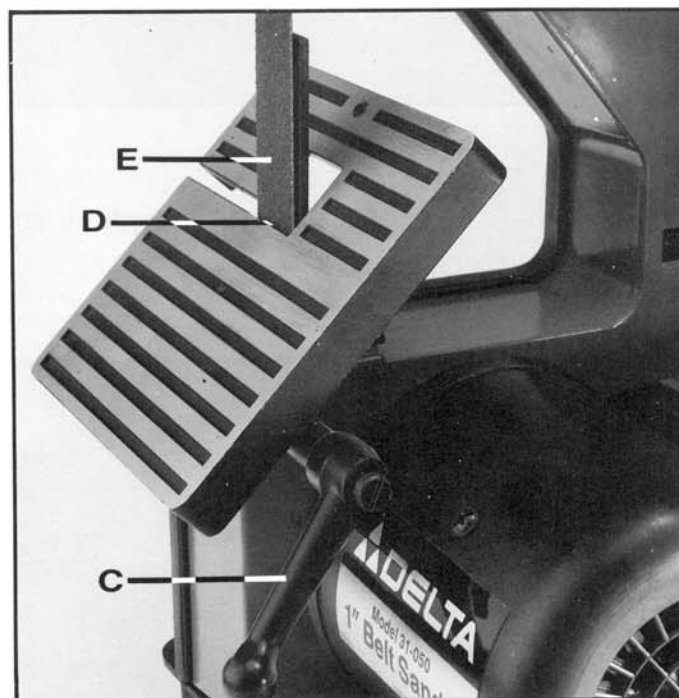

Fig. 14
4. The table can be tilted to the front as shown in Fig. 14, by loosening table locking handle (C) Fig. 14, tilting the table to the desired angle and tighten the table locking handle (C). **WARNING: TO AVOID TRAPPING THE WORK OR FINGERS BETWEEN THE TABLE AND SANDING BELT, THE TABLE EDGE (D) SHOULD BE POSITIONED A MAXIMUM OF 1/16 INCH FROM SANDING BELT (E), AS SHOWN IN FIG. 14.**